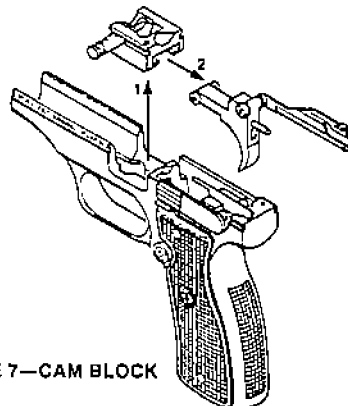

FIGURE 7—CAM BLOCK
2. Pull slide to rear (1). Push slide lock up to lock slide open (2).
3. On right side of pistol push takedown pin in. On left side pull it through until it stops (3). Takedown pin is captured so DO NOT try to pull it out beyond its stop.
4. Pull slide to rear and release slide lock. Control slide as it moves forward (4). Then push it all the way forward and off the receiver. Now see Figure 7.
NOTE: Assemble in reverse order 10 through 6. At 6, while assembling the trigger and sear in the cam block make sure the rollers run freely. See Figure 7. Position the rear upper trigger rollers in the cam block. While keeping the sear pointing up and rearward, lower the trigger and cam block down into the well of